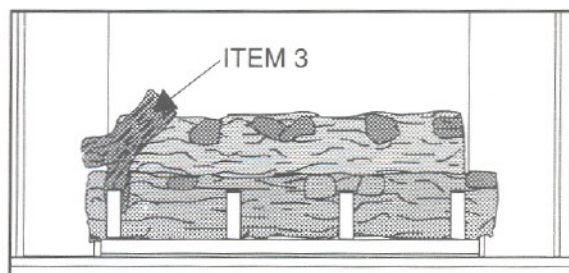

Figure 26
4. See Figure 26. Position one of the "Y" Logs (Item 3), on the indentations to the left of the Front and Back Logs. The "Y" portion of the log will be to the front, with the "straight" portion angled slightly to the right and laying on the Back Log.